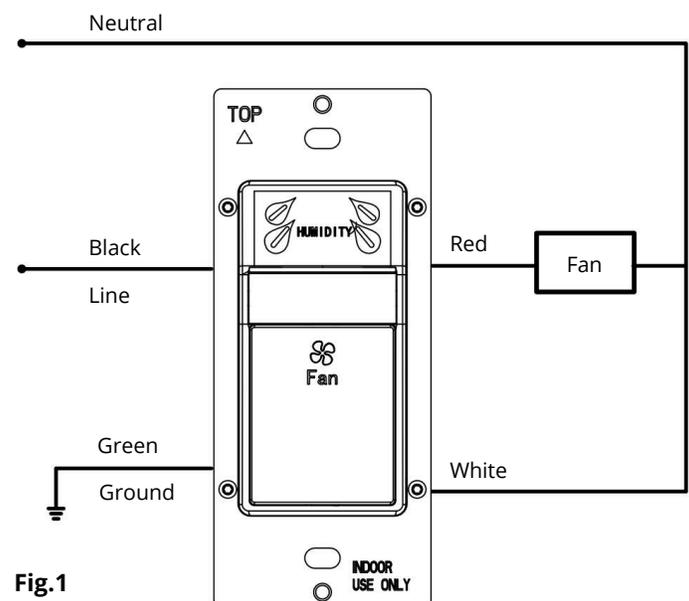

Fig.1
2. Connect lead wires as WIRING DIAGRAM (see Fig.1 on the right): BLACK lead to Line, RED lead to (Fan) Load, WHITE lead to Neutral and GREEN lead to Ground